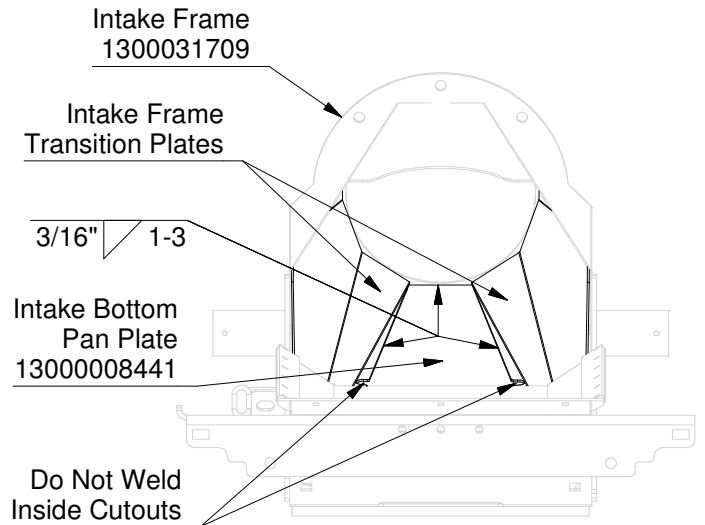

FIGURE 3
3. Flip the Intake Frame right side up. Stitch weld the Intake Bottom Pan Plate to the bottom of Intake Frame Transition Plates as shown in Figure 3.